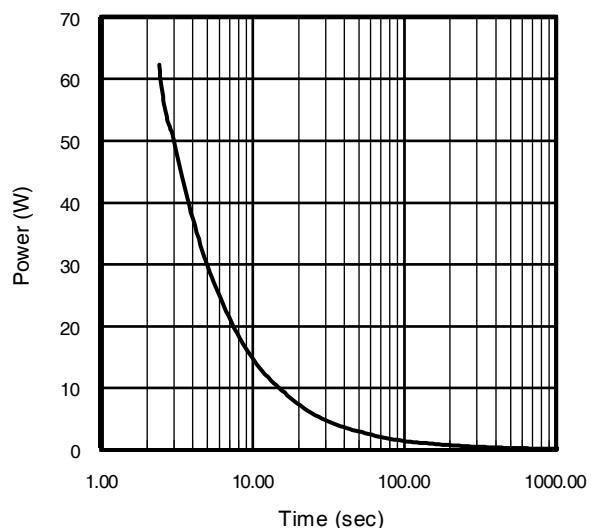

Fig 15. Typical Power Vs. Time
Notes on Repetitive Avalanche Curves , Figures 15, 16: (For further info, see AN-1005 at www.irf.com)
7. ΔT = Allowable rise in junction temperature, not to exceed $T_{j\max}$ (assumed as 25°C in Figure 15, 16).